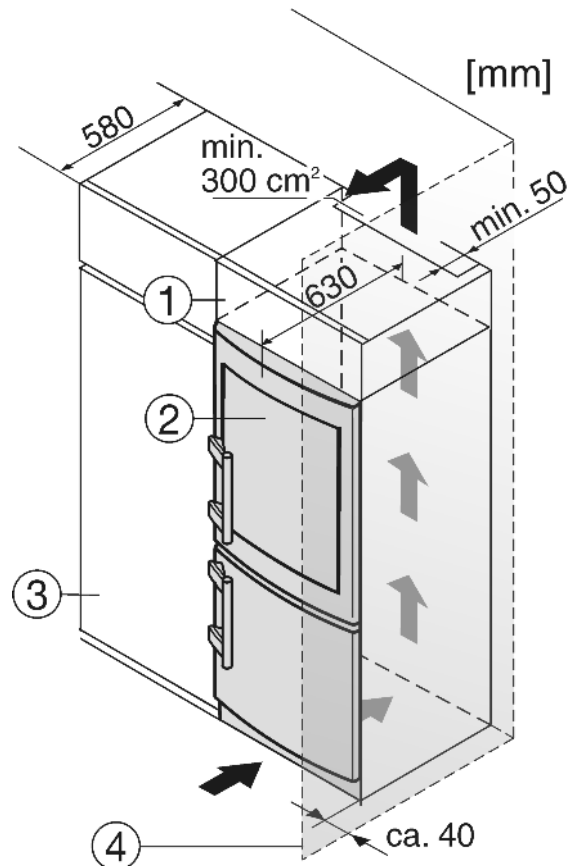

Fig. 21
- (1) Stack cabinet
- (2) Appliance
- (3) Kitchen cabinet
- (4) Wall
The appliance can be built into kitchen units. A top cupboard Fig. 21 (2) can be added above the appliance in order to bring the appliance Fig. 21 (1) up to the height of the fitted kitchen units.
When retrofitting with kitchen cabinets (max. depth 580 mm) the appliance can be installed directly next to the cabinet *Fig. 21 (3)*. The appliance door projects 34 mm from the front of the kitchen cabinet at the side and 50 mm at the centre of the appliance. This is so that it can be opened and closed easily.
If the appliance is installed with the hinges next to a wall *Fig. 21 (4)*, the distance between appliance and wall has to be at least 40 mm. This corresponds to the projection of the handle when the door is open.